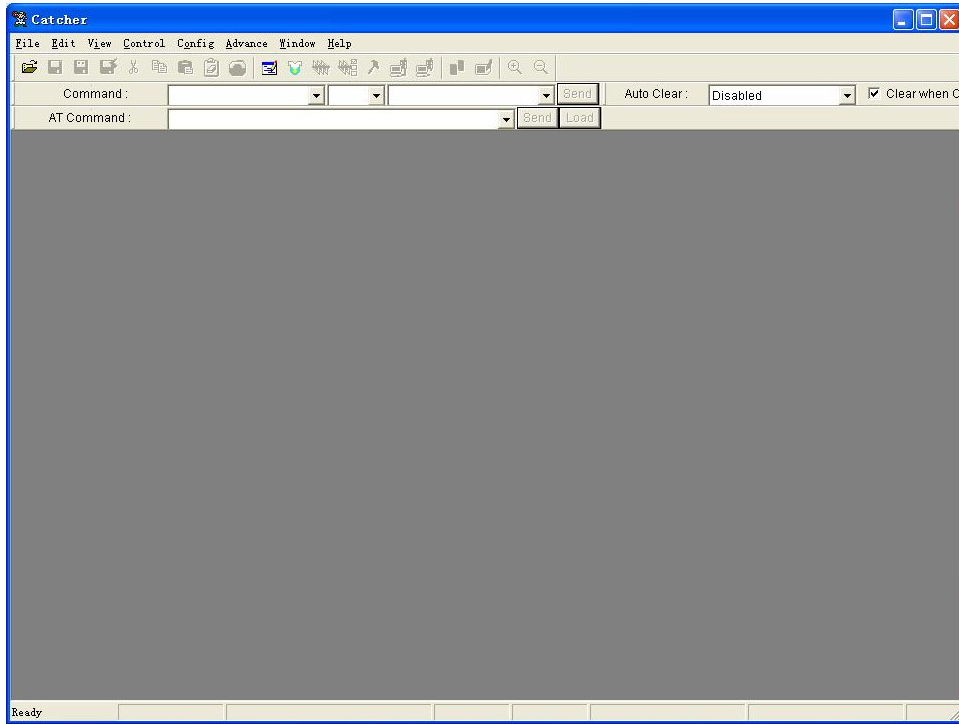

Figure 3
3.1 run “Catcher.exe”, choose Config →.Set Database Path. The figures (figure 3, figure 4, and figure 5) occur in sequence as below.